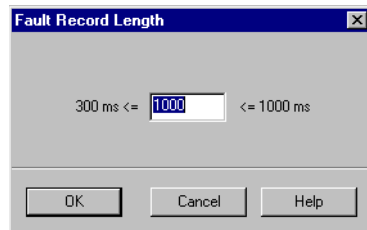

Figure 6-15 Fault Record Length dialog box in DIGSI
- ❑ Click **Device** → **Trigger test fault recording...** on the menu bar. The window Fault Record Length opens (Figure 6-15, page 226).